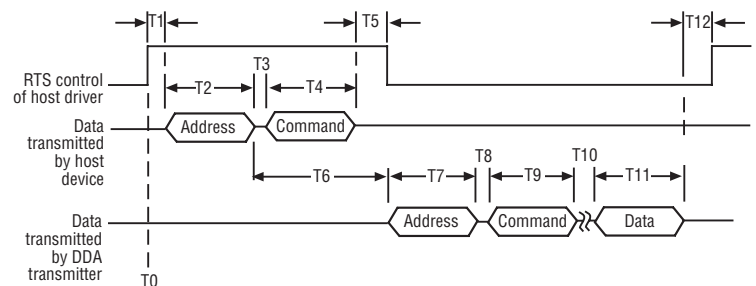

Figure 27. Network protocol timing information
Network protocol timing sequences (interrogation sequences) are shown in (Figure 27). This time line representation of data transmission sequences also provides information about host computer control of the RS-485 communication card and also illustrates driver enabled control through the RTS control line.
1. The start of the sequence begins when the host enables its RS-485 driver to transmit the Address/Command bytes (see time line 'T0' in Figure 27).
Many available communication cards (line drivers) for use with the host computer device use a special control line input to control the enabling and disabling of the RS-485 driver. Typically this input is connected to the computers RTS or DTR communication port control line. The computer can then control the state of the driver by toggling the RTS or DTR signal lines via software control. An example of this control method is shown in (Figure 27). Other control methods are also used depending on the manufacturer of the equipment.